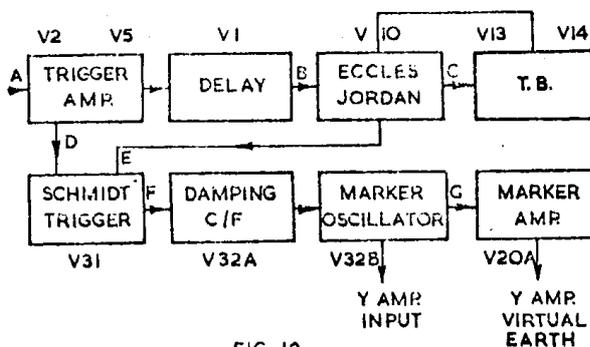
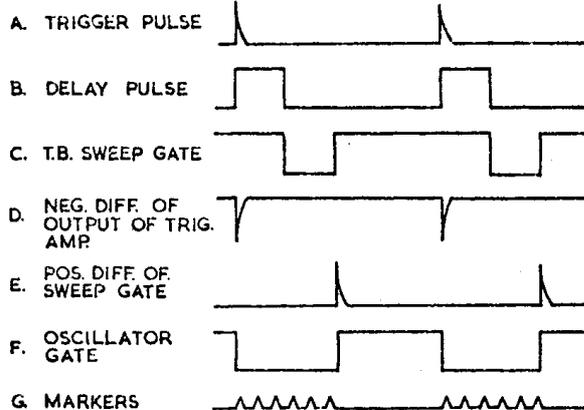

FIG. 10
FIG. 11
**5.3.** To measure the interval between a phenomena occurring during the time base delay period and a phenomena on the trace, markers must be generated from the occurrence of the trigger phenomena until the end of the time-base sweep. The marker oscillator must be stopped during the time-base flyback, in order to synchronise the markers to the oscilloscope trace. A block diagram of the time-base and marker generator system is given in Fig. 10; the block capital letters refer to the waveforms given in Fig. 11, circuit components are designated in accordance with the CD 518 circuit diagram (Drawing No. DC 518).